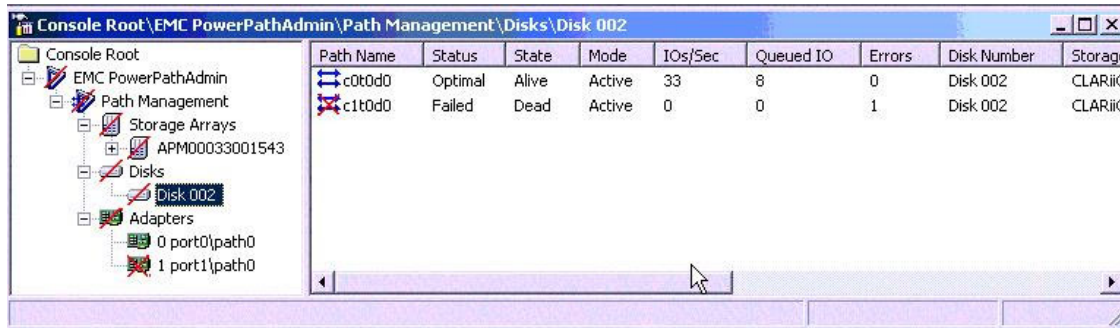

Figure 8-55 EMC PowerPath Management window
- Figure 8-55 illustrates the primary path down due to the link failure injected by disabling the first HBA port on the blade server at the switch. The IO is rerouted via the alternate path (second HBA port on the blade server) with minimum delay, so high availability is achieved.